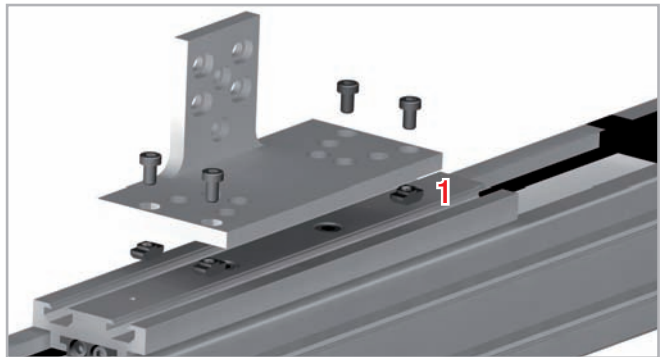

Fig. 103
1. Insert the screws to be used for the connection to unit 1 into the prepared holes (see fig. 103).